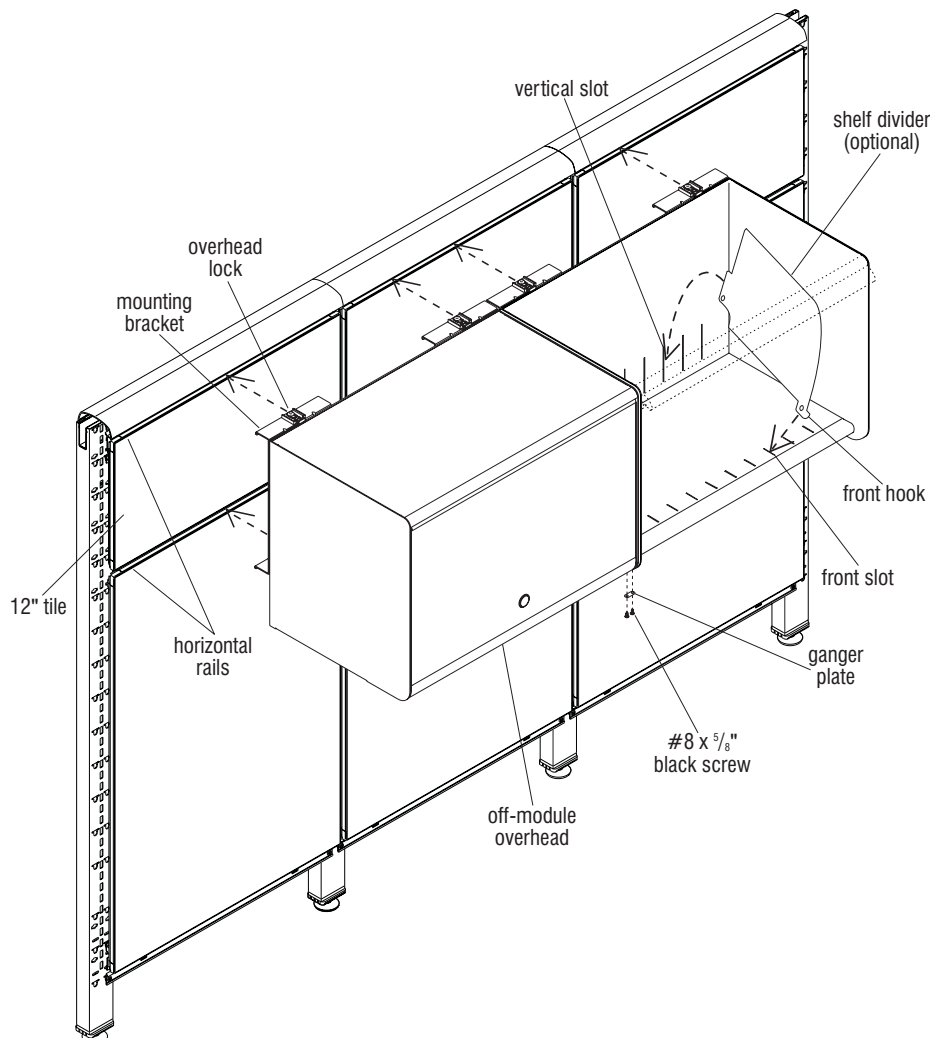

Figure 5
8. Off-module mounted cabinets can only be hung with the top aligned with the top of a 12" tile. To make hanging the overhead easier, remove the tile or top cap directly above the overhead. With the overhead locks pulled out (toward the front of the cabinet), hang the top and bottom of the mounting bracket into the tracks of the panel's horizontal rail. Make sure the cabinet is hanging on the horizontal rail and not on the tile. After the cabinet is hung in the track, move it to the desired position by gently lifting up while sliding it. Secure the cabinet on the tracks by pressing the overhead locks into the track (Figure 5).
9. When two or more cabinets are installed next to each other, secure them together with a ganger plate. Fasten a ganger plate to the cabinet bottoms with two #8 x 5/8" black screws (Figure 5).
10. To install shelf dividers (optional), first place the front hook of the divider into the front slot of the shelf. Then rotate the rear of the divider down until the the tab snaps into the vertical slot in the cabinet back (Figure 5). To remove the divider, press lightly on the cabinet back to release the rear tab and rotate it out.